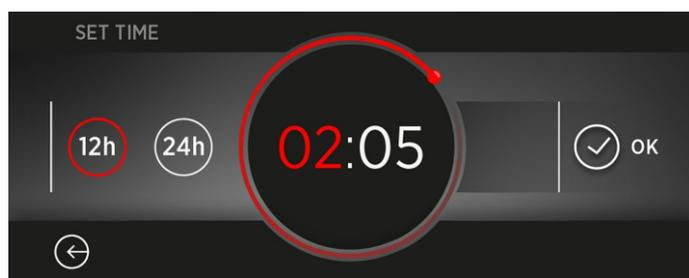

Figure 2
- At first launch you need to follow an installation process in order to be able to use the oven. Press ON/OFF to go ahead. (Figure 2)